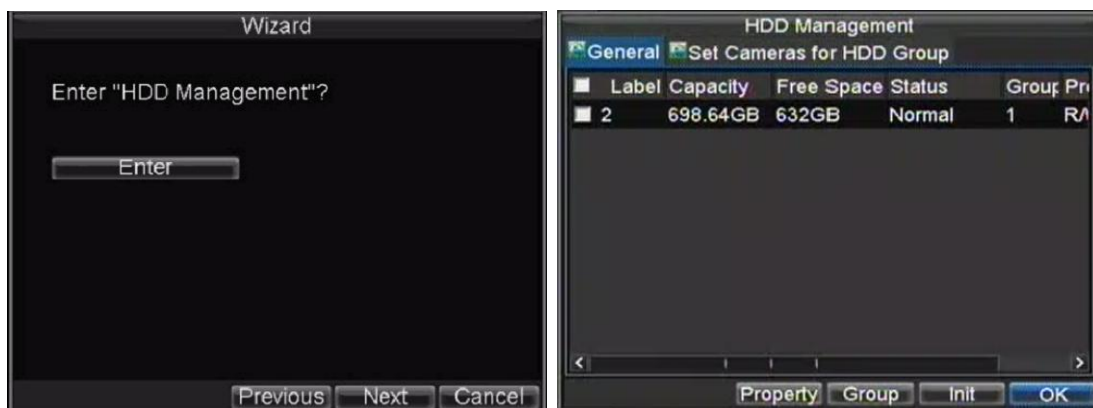

Figure 4. HDD Management
5. Click the Next button. This will take you to the **HDD Management** window, shown in Figure 4.